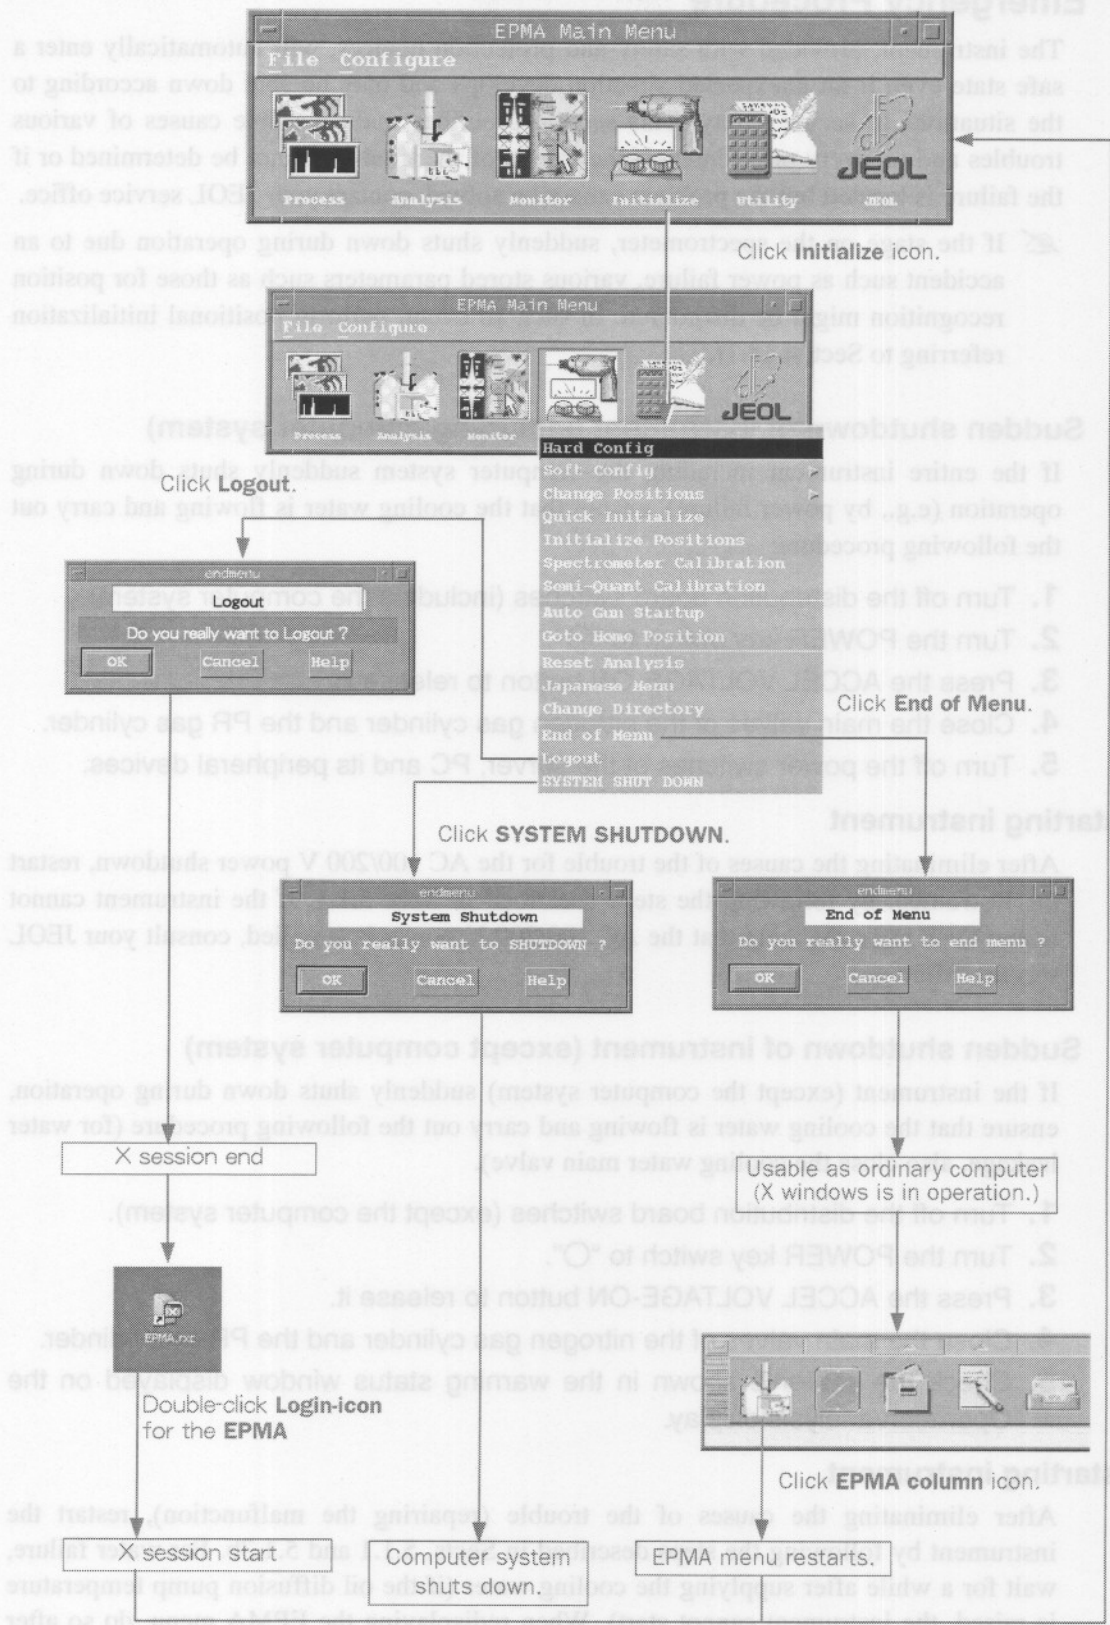

Fig. 5.10 Computer system shutdown flow chart
3. Click the **Initialize** icon in the EPMA Main Menu window and select **System Shutdown** (☞ refer to Fig. 5.10); then click the **OK** button in the System Shutdown window.